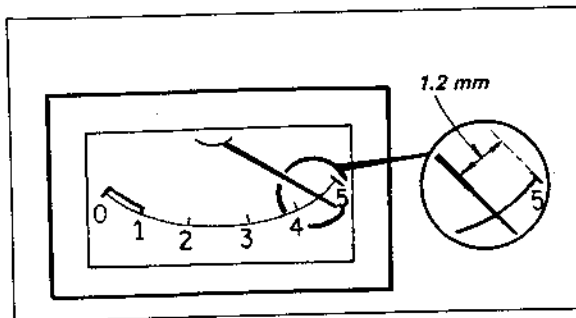
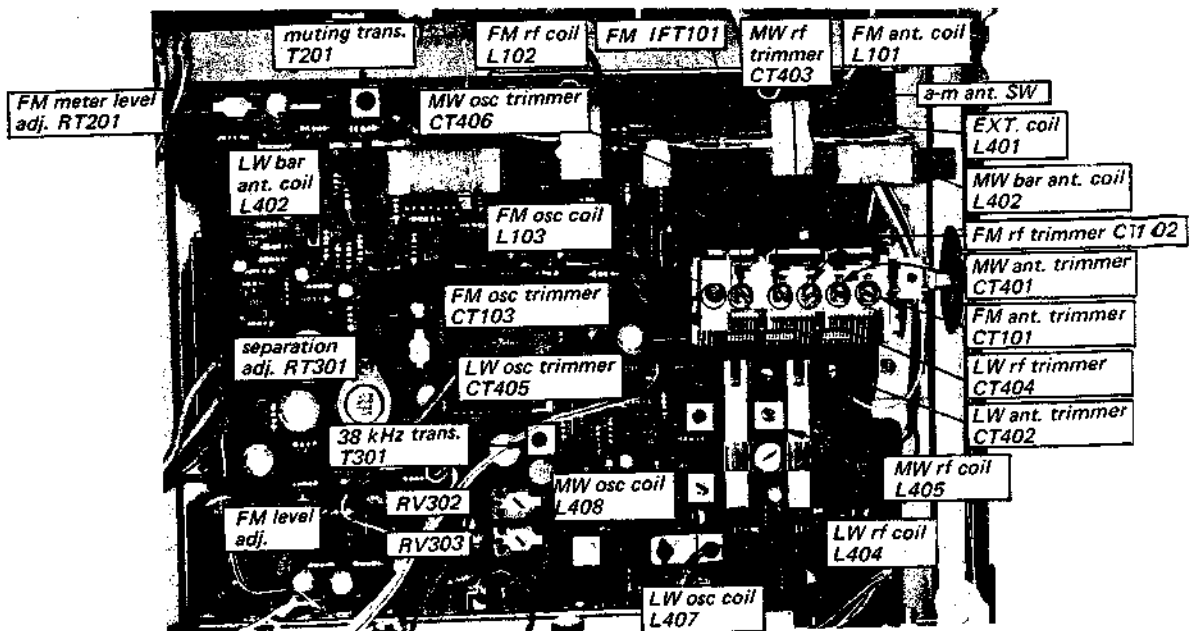

Fig. 3-3. Meter calibration
Fig. 3-4. Adjustment parts location
2. Tune to the signal generator frequency, then adjust T201 (See Fig. 3-4) for proper muting operation.
2. Tune to the signal generator frequency, then adjust RT201 (See Fig. 3-4) for 4.8 reading on the meter as shown in Fig. 3-3.
2. Precisely tune the set to the signal generator carrier frequency, then turn the top core of switching transformer T301 (See Fig. 3-4), to obtain maximum output at left channel. Note that this adjustment has a close relationship with stereo distortion.
3. Set the MODE switch to MONO, then adjust RV302 and RV303 (See Fig. 3-4) for same but as large as possible output at both left and right channel.
7. The output-level to residual-level ratio represents the separation. Adjust separation adj. control RT301 (See Fig. 3-4) for minimum residual level. Check the right channel for separation. Usually, about an 8 to 9 dB difference in channel separation exists. Readjust RT301 for minimum difference between left-and right-channel separation. While doing this, remember that the output level also changes according to the setting of RT301.
2. Tune the set to the signal generator frequency, then adjust L401 (See Fig. 3-4) for maximum output.